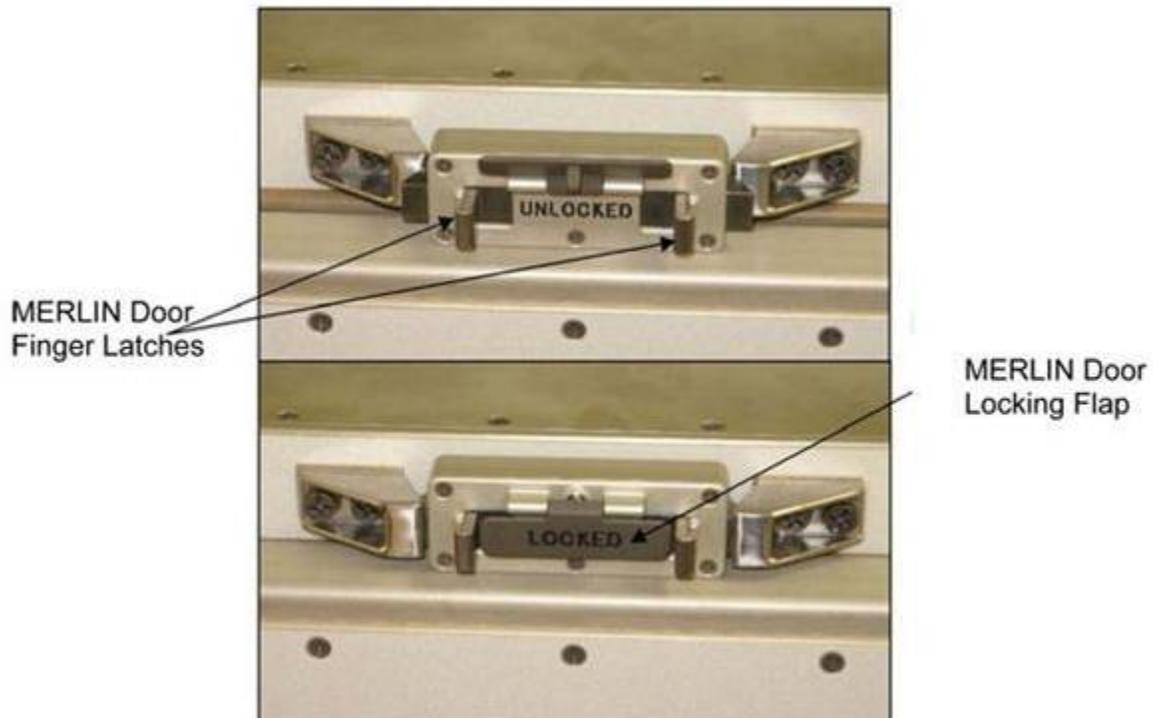

Figure 6. MERLIN Door Lock Mechanism.
- 4.15 Verify locker door finger latches are fully spread apart and locking flap is positioned between finger latches. Refer to Figure 6.